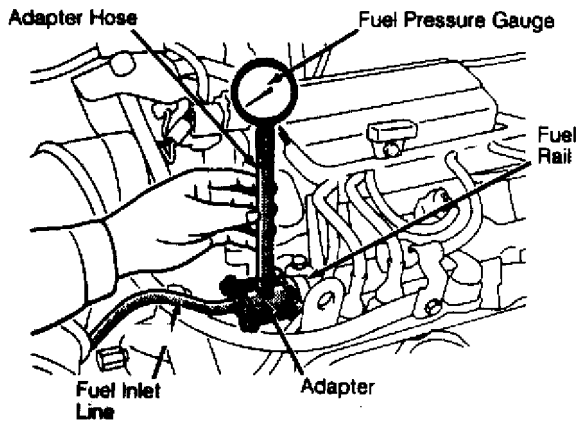

Fig. 1: Installing Fuel Pressure Tester (Typical)
1) Disconnect high pressure fuel hose at fuel delivery pipe. Remove throttle body bracket (if necessary). Connect fuel pressure gauge with adapter between fuel delivery pipe and high pressure hose. See Fig. 1.